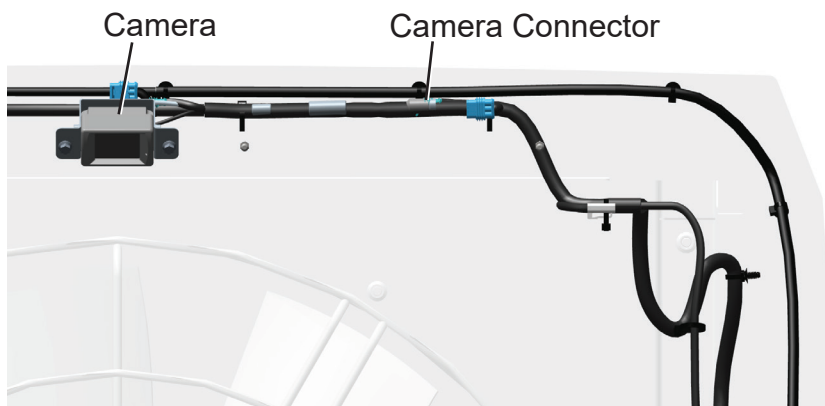

Figure 6
11. Locate the camera connector and disconnect from the hood harness connector, see Figure 6.